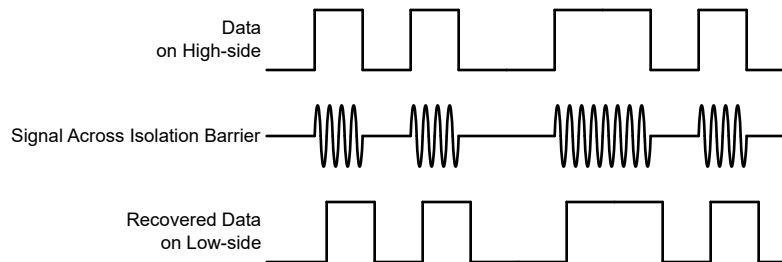

Figure 7-4. OOK-Based Modulation Scheme
The AMC23C15-Q1 uses an on-off keying (OOK) modulation scheme, as shown in Figure 7-4, to transmit the comparator output states across the SiO₂-based isolation barrier. The transmit driver (TX) shown in the *Functional Block Diagram* transmits an internally-generated, high-frequency carrier across the isolation barrier to represent a digital *one* and does not send a signal to represent a digital *zero*.